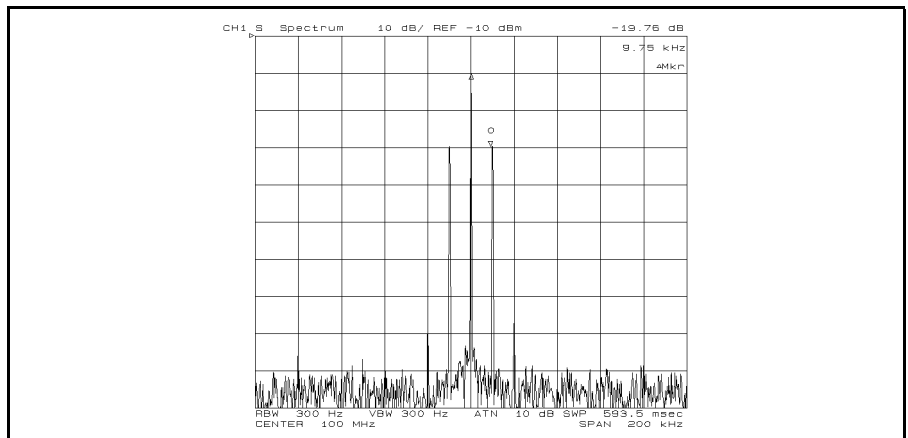

Figure 4-13. Modulating Frequency of AM Signal
4. Press **Search** SEARCH:PEAK NEXT PEAK to search for a sideband. The offset value from the carrier is displayed as the marker sweep parameter value shown in Figure 4-13. This value is the modulation frequency.
where ΔMkr is the Δ marker sweep parameter value shown in Figure 4-13.